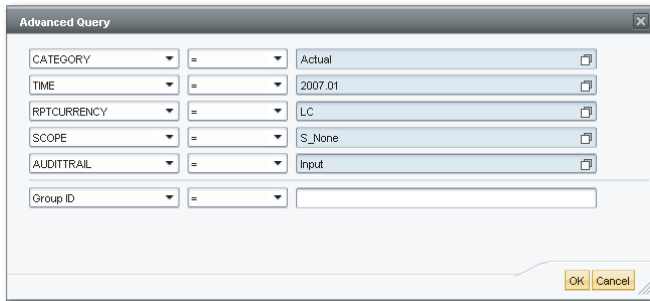

Figure 9.51 Advanced Query Filter Criteria
2. Select the model for which you want to manage journals in the upper-right corner of the JOURNALS view. You can view journals by selecting the CONTEXT or ADVANCED QUERY options. When the CONTEXT option is selected, the journals are displayed based on the member selections in the context area. When ADVANCED QUERY is selected as the filter option, a query dialog box is presented to specify the criteria for selecting the journals (Figure 9.51). To view the details